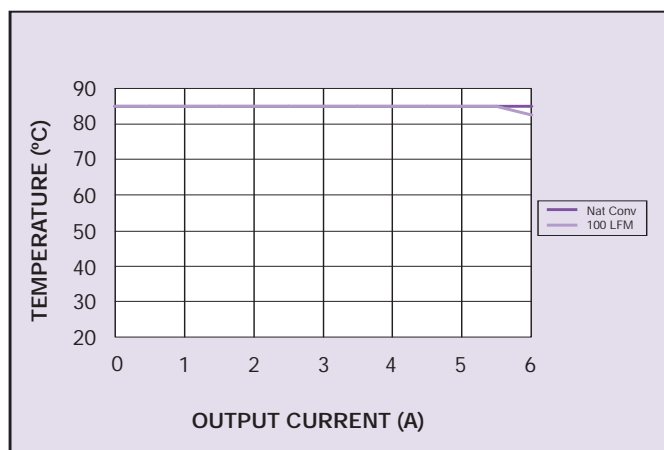

Figure 3 - Safe Operating Area for PTH12050L
- The pk-pk output ripple voltage is measured with an external 10  $\mu F$  ceramic capacitor. See Figure 3 Standard application schematic.